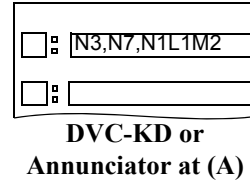

Figure 4.4 Point Programming for Figure 4.3 Example
One DVC-KD or ACS annunciator point is required to establish and terminate this communication. The point must be programmed with the ACS function/mode “FFT-NFN”. Figure 4.4 shows the point programming.
1. A firefighter jacks in at (C). Point 1 rings and both LEDs flash at (A).
2. The operator at (A) presses the point button, programmed as shown in Figure 4.4, turning on the point. The point active LEDs will light steady on, and the yellow LEDs will go off. Communication is established between (C) and the local telephone at (A).
- The *N3,N7* portion of the point programming controls the Noti-Fire-Net communication - (A) to (B) in this example.